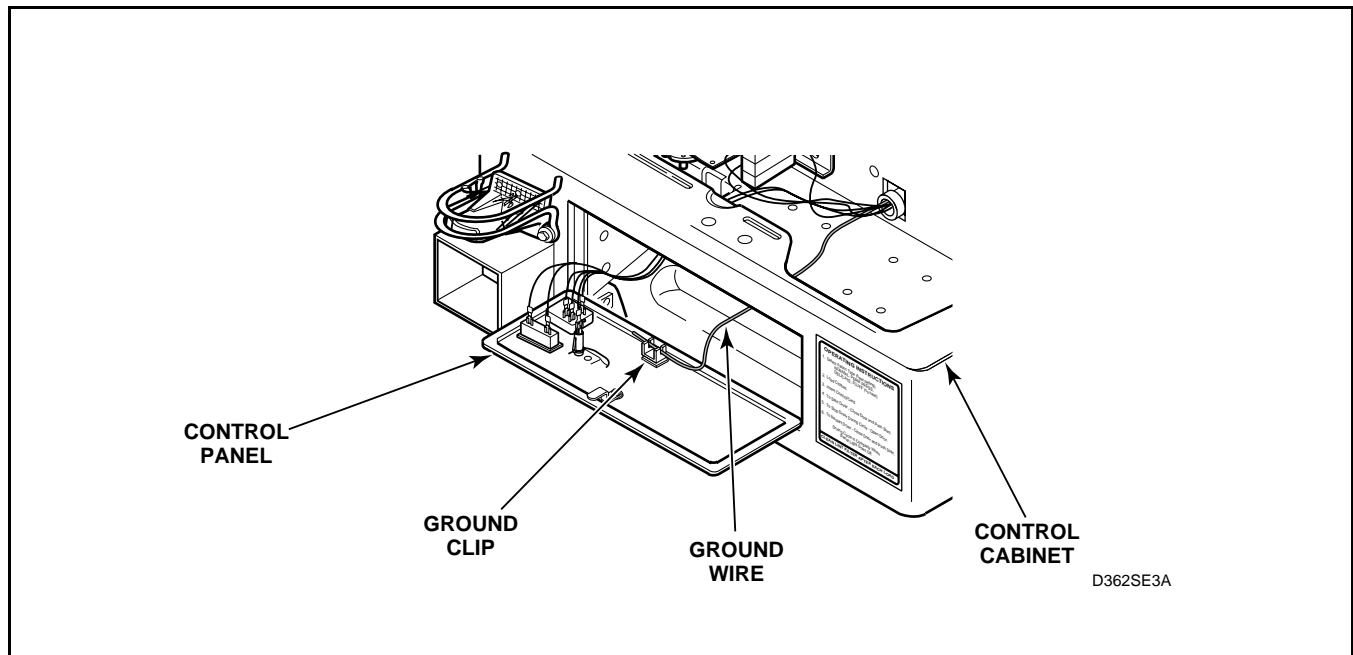

Figure 3
(Figure 3).
- Remove ground clip holding ground wire to control panel. See *Figure 3*.
- d. Disconnect all wires to components. See *Figure 3*.
- e. Remove ground clip holding ground wire to control panel. See *Figure 3*.